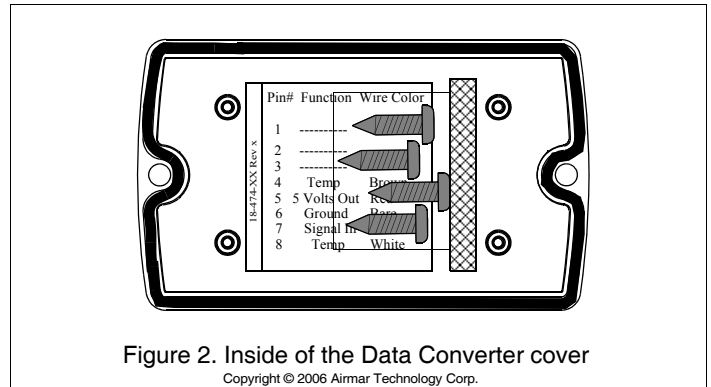

Figure 2. Inside of the Data Converter cover
3. Remove the cover of the Data Converter (Figure 2). Peel the tape away from the inside and set the screws aside.